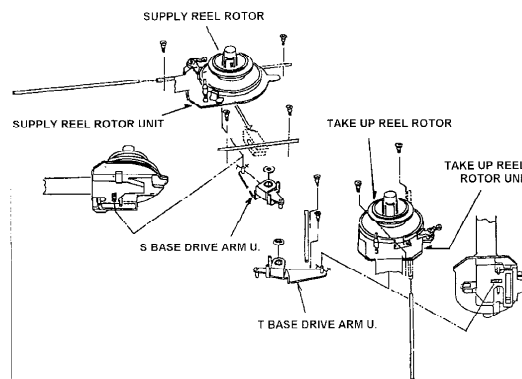

Fig. 6-3-3 Installation of S & T Reel Rotor Unit
2. Hang on the Reel Rotor Unit to Reel Inner Rail and Install the Reel Rotor Unit then the pin of Drive Arm Unit should be matched with groove position of Reel Base as shown in **Figure 6-3-3**.
3. Install the 4 screws (C), (D) and (E).
8. Adjust the Motor Torque Offset value (Refer to item 1-1 of section 3).
9. Confirm that the Tension value on playback mode (Refer to **item 5-11**).